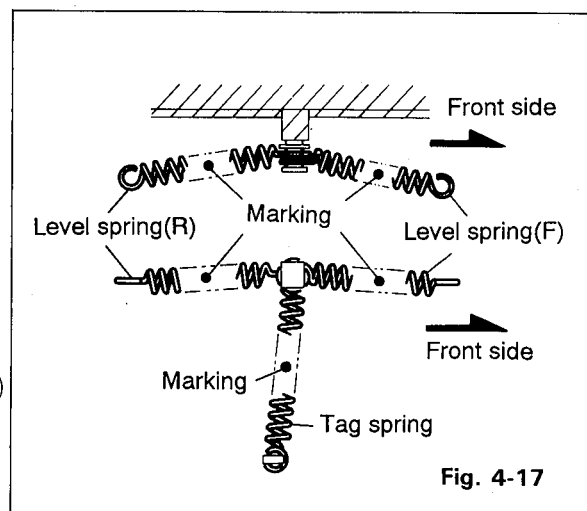

Fig. 4-17
Note 3. Since a number of springs are used for this system, remove the respective springs after marking and recording the positions in advance. Moreover, the respective springs should be reassembled according to the order from the tag springs to the level springs (R) and the level springs (F) (See Fig. 4-17).